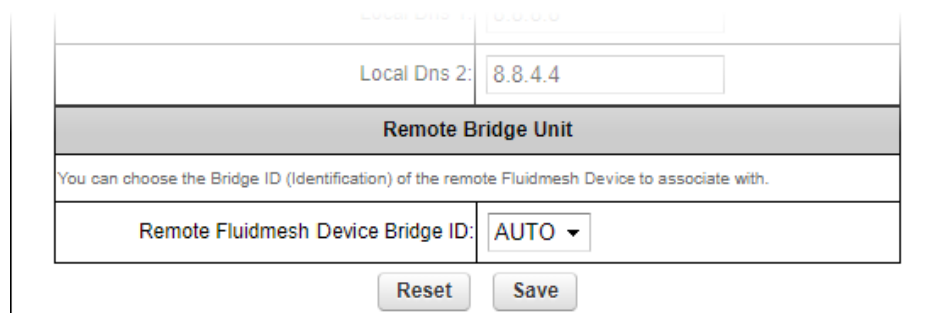

Figure 25. General Mode window (Remote Bridge Unit section)
1. Click the **Remote [Unit model] Bridge ID:** drop-down (Figure 25 (page 74)).